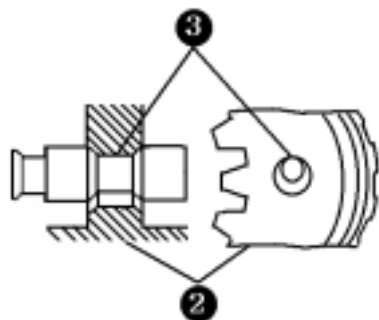

Fig.5-5 Block-pin
At the moment when both the friction surfaces come into contact,the ring turns by as much as the surplus space in hub(2) for block pin(3)as shown in Fig.5-5